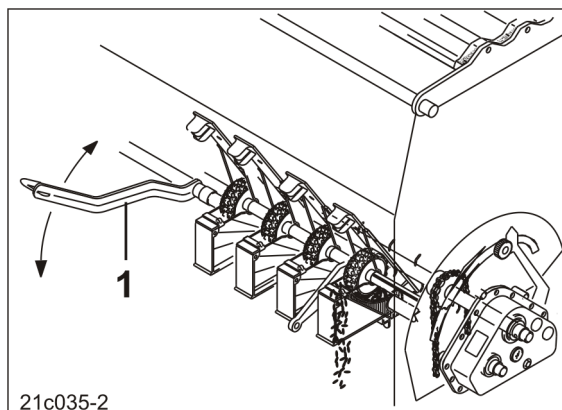

Fig. 150
4. Set the bottom flap lever (Fig. 150/1) as required to a position between 1 and 4.